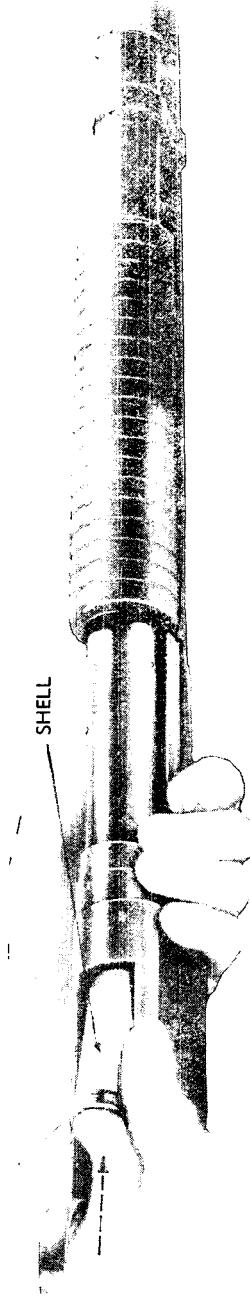

Figure 11—Loading Magazine—Winchester Shotgun M97
e. To Load and Unload the Magazine (fig. 11).
(1) To load the magazine, press a shell nose first, into the rear of